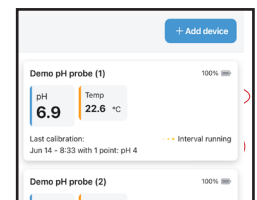

Figure 5
- Click on a probe that is running the interval (Figure 5)